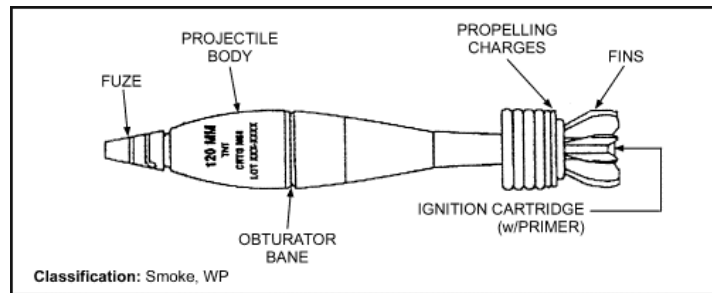

Figure 7-10. M68 smoke cartridge.
- (1) Type and use: High explosive fragmentation and blast.
- (2) Identification: Olive drab with yellow markings.
- (3) Components: M935 point detonating (PD) fuze.
- (4) Maximum range: 6,300 meters at charge 8; 7,200 meters at charge 10.
- (5) Remarks: Used against personnel (in open or in bunkers), light vehicles, and light bunkers; weight to 20 pounds (13.18 kilograms).
b. **M68 Smoke Cartridge (NDI)** (Figure 7-10).